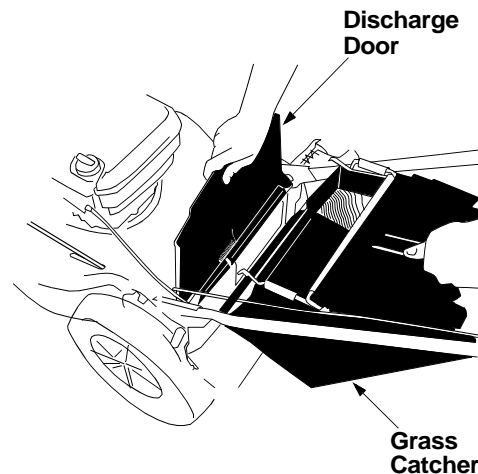

Figure 9
- Holding open the rear discharge door, place the grass catcher on the pivot rod. Let go of discharge door so that it rests on the grass catcher. See Figure 9.